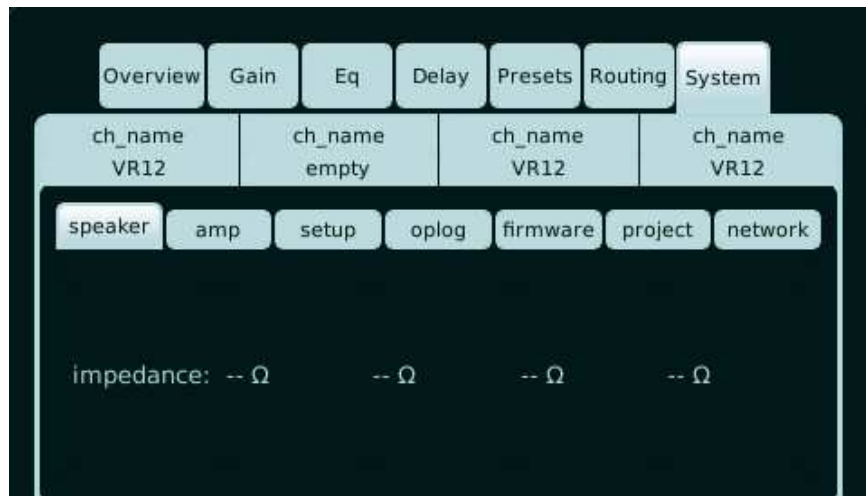

Fig 21. Speaker impedance read-out
7.7.1 Speaker - this section shows the measured speaker (system) impedance, per channel; This read-out offers real-time load-verification, with which state of speaker function can be determined. Note: for an accurate reading, ample signal needs to be available (“the higher the signal, the higher the accuracy”). The measurement range is between 1,5 Ohms and 20 Ohms, above/below - - is indicated. (see fig.21)